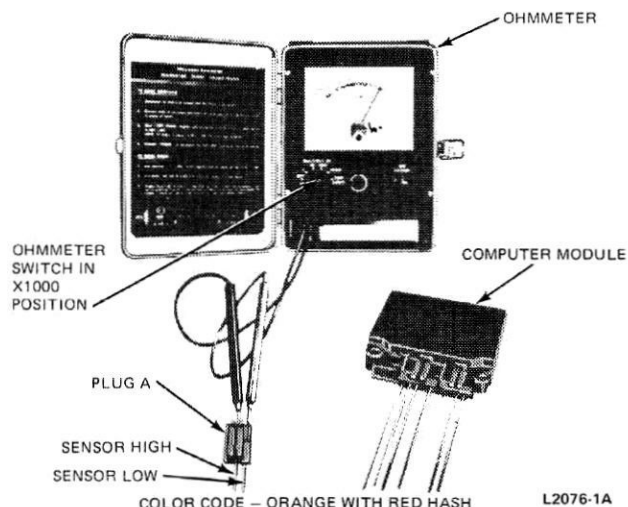

FIG. 9 Testing Sensor Circuit
2. Connect an ohmmeter between pins two and three of the sensor connector. Resistance should be 2,400 to 3,200 ohms (Fig. 9).